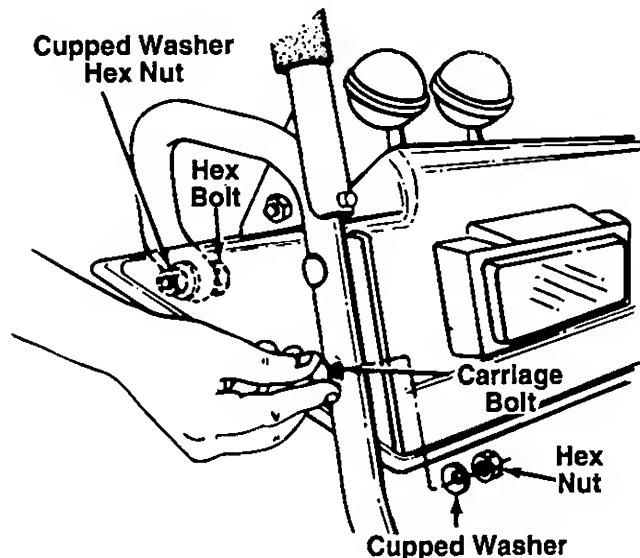

FIGURE 2.—Model 646F Shown
4. Place handle panel in position between the handles so the ends of the handle go through the slots in the handle panel. See figure 2.
5. Secure front of handle panel with four carriage bolts, cupped washers (cupped side against the handle panel) and hex nuts as shown in figure 2.